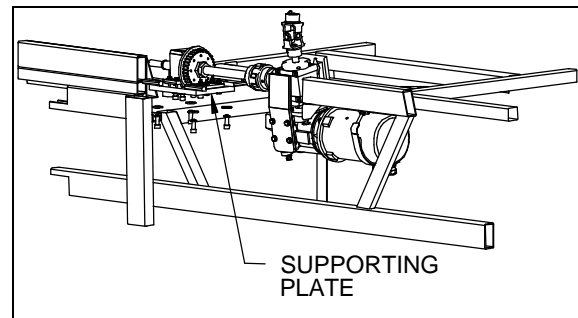

FIGURE 20 : PILLOW BLOCK SUPPORTING PLATE
- From the baggage compartment, unscrew the pillow block supporting plate screw (figure 20). Do not change the plate
To tighten the keyless bushing, use a special open-end wrench to retain the yellow part and another wrench to tighten the black part. Figure 20 shows how to tighten the keyless bushing.